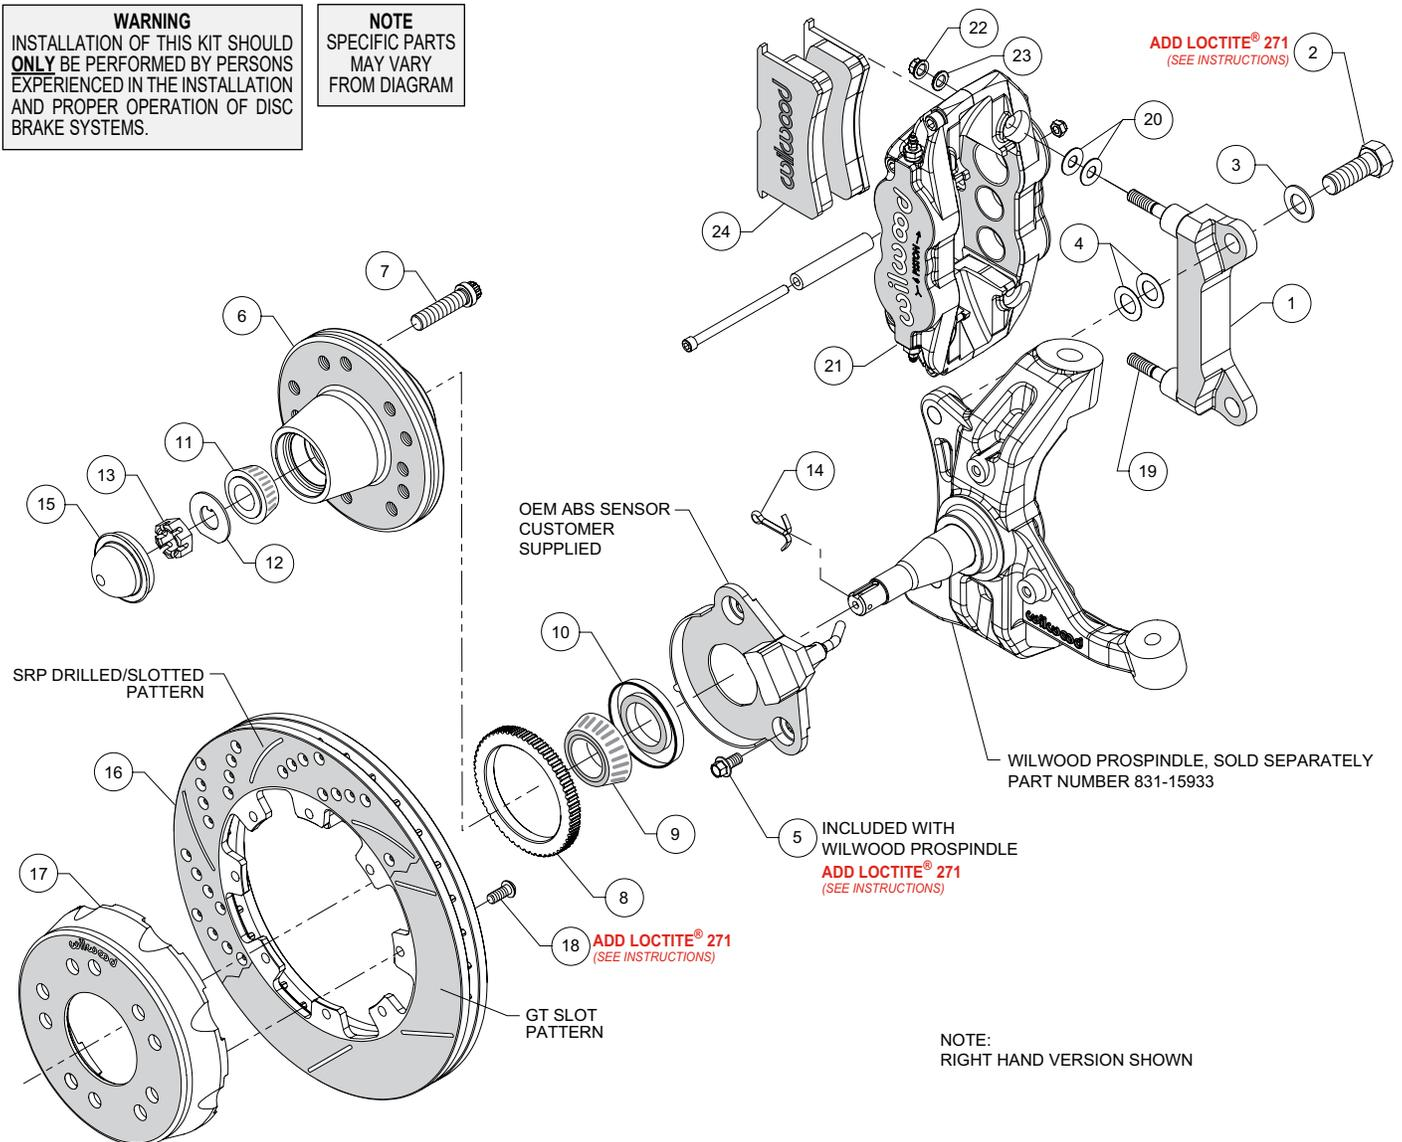

Figure 1. Typical Installation Configuration
NOTE: Numbers in parenthesis refer to the parts list and Figure 1 on the preceding pages.
- For vehicles equipped with ABS, install the OEM ABS sensor (customer supplied) to the spindle using bolts (5) as shown in Figure 1 and Photo 3. Temporarily tighten the mounting bolts. **NOTE: The sensor must fit squarely against the mount bosses on the spindle.** Inspect for interference from casting irregularities, machining ridges, burrs, etc. Remove the bolts one at a time and apply red *Loctite*® 271 to the threads, and torque to 20 ft-lb.
- The caliper mount bracket (1) should initially be installed with clean, dry threads on the mounting bolts. Orient the bracket, as shown in Figure 1 and Photo 4, and install using bolts (2) and washers (3). Initially place two .024" thick shims (4) on each bolt between the bracket and spindle, Figure 1. Temporarily tighten the mounting bolts. **NOTE: The bracket must fit squarely against the mount bosses on the spindle.** Inspect for interference from casting irregularities, machining ridges, burrs, etc. Later, after the caliper alignment has been checked, the mount bolts will be secured using red *Loctite*® 271.
- Install wheel studs (7) into the hub (6), Photo 5. Torque to 77 ft-lb. **NOTE: There are two five lug patterns in the hub (5 x 4.75 and 5 x 5.00).** Ensure the correct hub stud pattern is being used to fit the wheel application.
- For vehicles equipped with ABS, carefully press the ABS ring (8) onto the backside of the hub (6) as shown in Figure 1 and Photo 6.
- Pack the small outer bearing cone (11) with high temperature disc brake bearing grease and install into hub (6). Slide the hub assembly onto the spindle. Secure using spindle washer (12) and spindle nut (13), Photo 8. Adjust bearings per OEM specifications. Install a new cotter pin (14).
- Press the dust cap (15) into the hub (6). **NOTE: Do not hammer center of cap. Install using outer flange only.**
- Orient the rotor (16) and the hat (17) as shown in Figure 1 and Photo 9. Attach rotor to hat using bolts (18). Using an alternating sequence, apply red *Loctite*® 271 to the threads, and torque to 25 ft-lbs.
- NOTE: This kit contains distinct right and left hand calipers that must be mounted in a specific direction, as described below.** Initially place two .035" thick shims (20) on each stud (19) between the caliper and the bracket, as shown in Figure 1 and Photo 10. Mount the caliper (21) onto the bracket (1) using lock nuts (22) and washers (23), Figure 1. Temporarily tighten the lock nuts. Ensure that the caliper is mounted so that the largest pistons are at the rotor exit end of the caliper, in relation to the direction of rotor rotation. View the rotor through the top opening of the caliper. The rotor should be centered in the caliper, Photo 11. If not, adjust by adding or subtracting shims (4) between the bracket and the spindle. Always use the same amount of shims on each of the two mounting bolts. Once the caliper alignment is correct, remove the bracket mounting bolts (2) one at a time, apply red *Loctite*® 271 to the threads, and torque to 140 ft-lb.